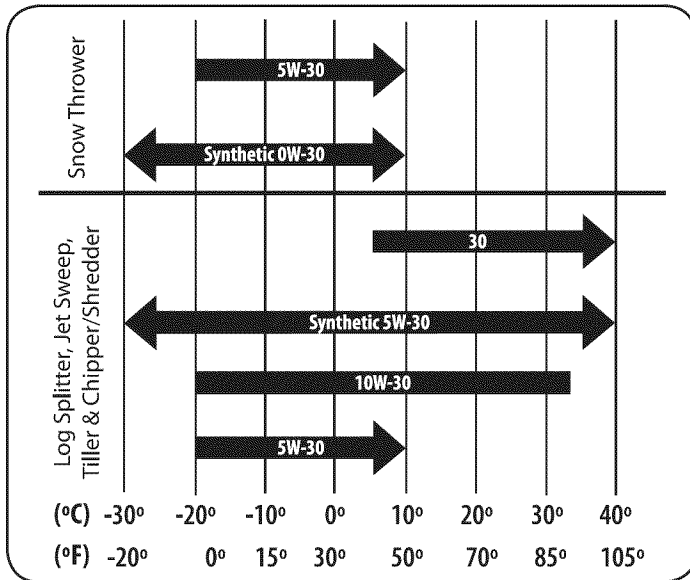

Figure 24
- Refer to the viscosity chart (Figure 24) for oil recommendations. Do not over-fill. Use a 4-stroke, or an equivalent high detergent, premium quality motor oil certified to meet or exceed U.S. automobile manufacturer's requirements for service classification of a minimum level SF or SG (higher letter ratings are acceptable such as SJ, SL and SM grades). Motor oil will display this designation on the container.